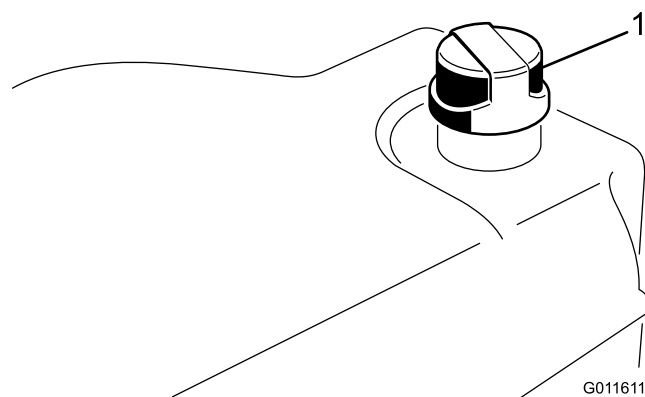

Figure 20
2. Clean area around filler neck and cap of hydraulic tank (Figure 20).